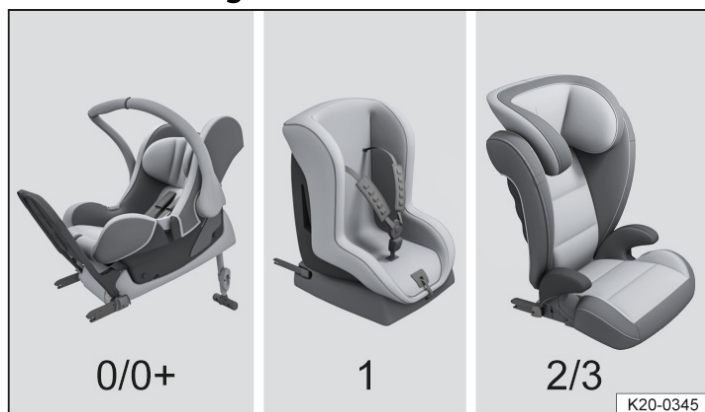

Fig. 1 Example illustrations of child seats.
- Weight class 0/0+: group 0/0+ or 0/1 rear-facing infant carriers → Fig. 1 are the best option for the period from birth to about 18 months.